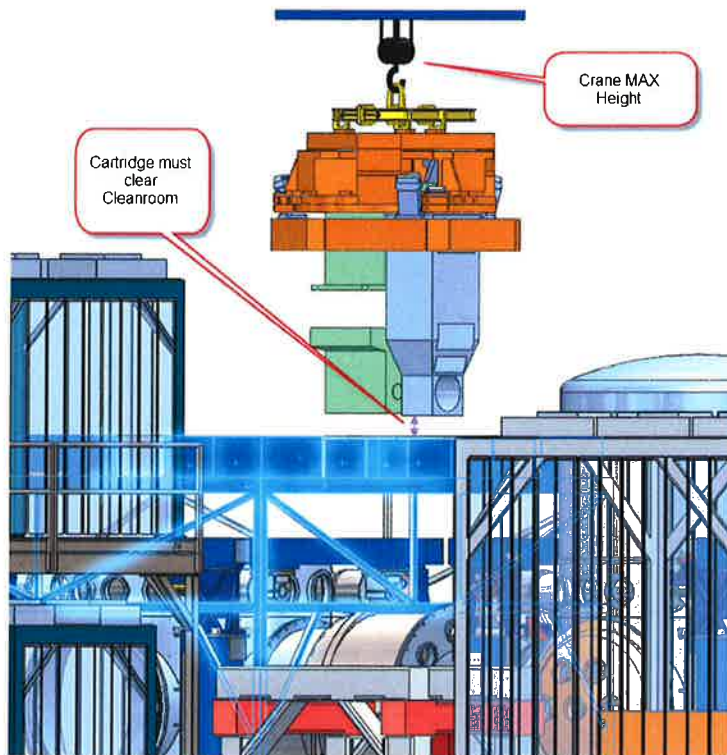

Fig 1
- 5.3.5 Move crane to a point centered above BSC chamber and clean room as shown in Fig. 1.[From what I can see this does not show the Cartridge over the chamber but don't worry].